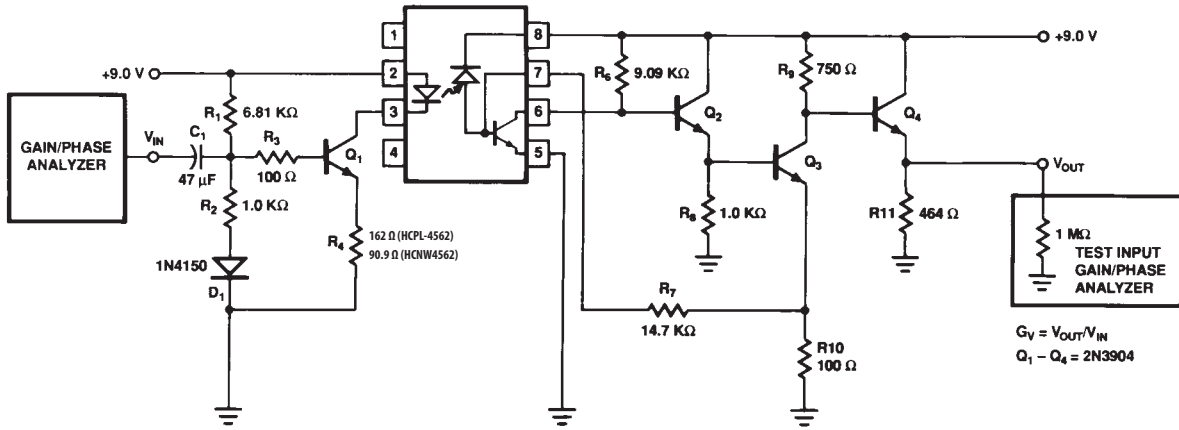
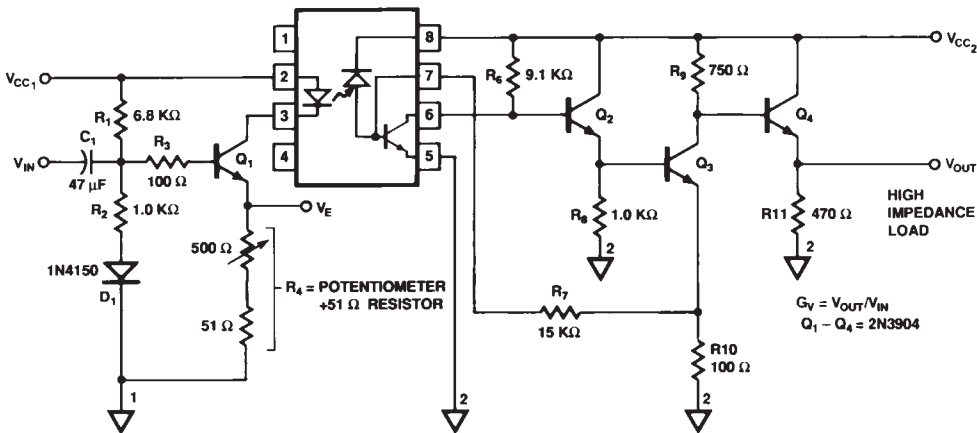

Figure 1. Gain and bandwidth test circuit
Figure 4. Recommended isolated video interface circuit
- When used in the circuit of Figure 1 or Figure 4; $G_V = V_{OUT}/V_{IN}$; $I_{FQ} = 6\text{ mA}$ (HCPL-4562), $I_{FQ} = 10\text{ mA}$ (HCNW4562).
In order to obtain similar circuit performance when converting from the HCPL-4562 to the HCNW4562, it is recommended to increase the Quiescent Input Current, I_{FQ} , from 6 mA to 10 mA. If the application circuit in Figure 4 is used, then potentiometer R4 should be adjusted appropriately.
The application circuit in Figure 4 incorporates several features that help maximize the bandwidth performance of the HCPL-4562/HCNW4562. Most important of these features is peaked response of the detector circuit that helps extend the frequency range over which the voltage gain is relatively constant. The number of gain stages, the overall circuit topology, and the choice of DC bias points are all consequences of the desire to maximize bandwidth performance.